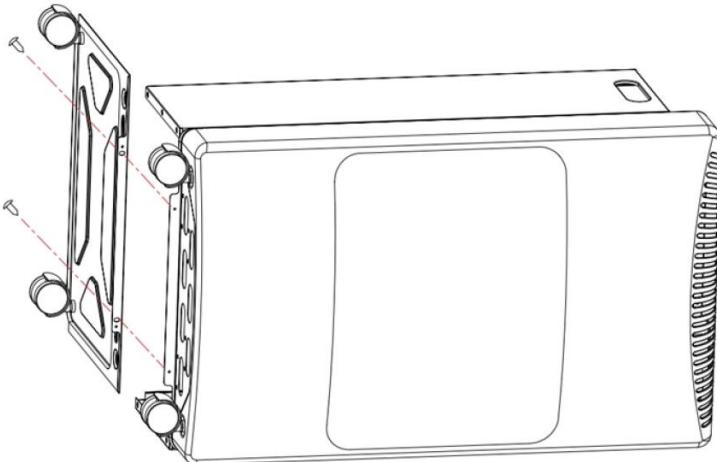

Fig. 3
3. Attach the bottom panel to the bottom of the front panel with two 4*8 mm screws (see fig. 3)